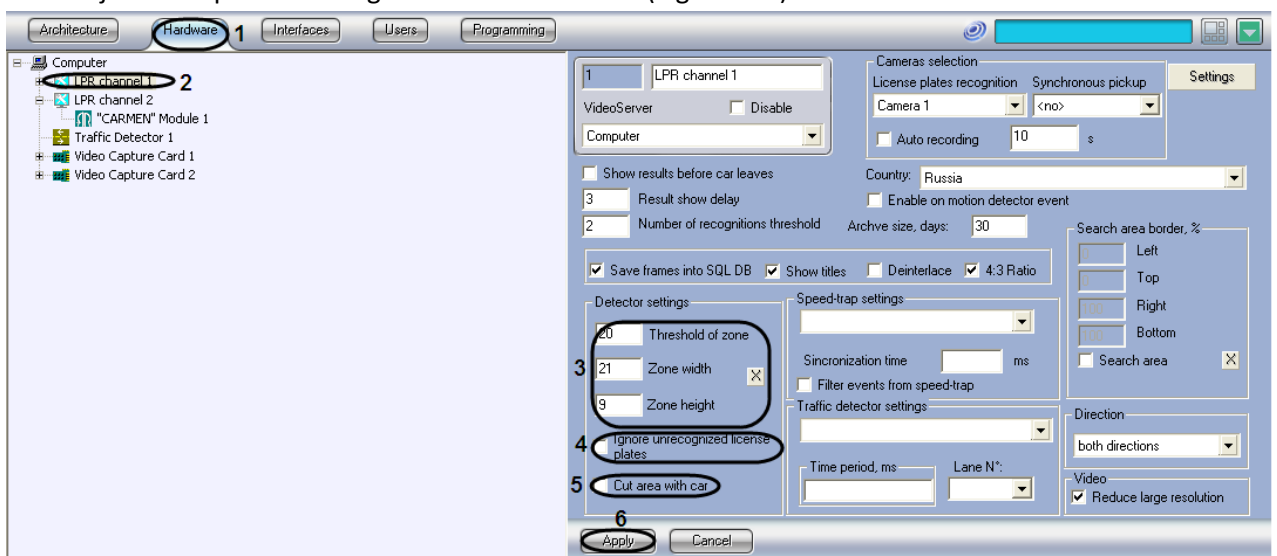

Fig. 7.2-25 Detector setup
2. In the object tree on the left side of the Hardware tab, select the Uragan LPR Recognition object representing the Auto-Uragan3.3.5.18 software module. The settings panel of the selected object will open on the right side of the window (Fig. 7.2-25).
5. If necessary set the checkbox Ignore unrecognized license plates(Fig. 7.2-25,4)
6. If necessary set the checkbox Cut area with car (Fig. 7.2-25,5).